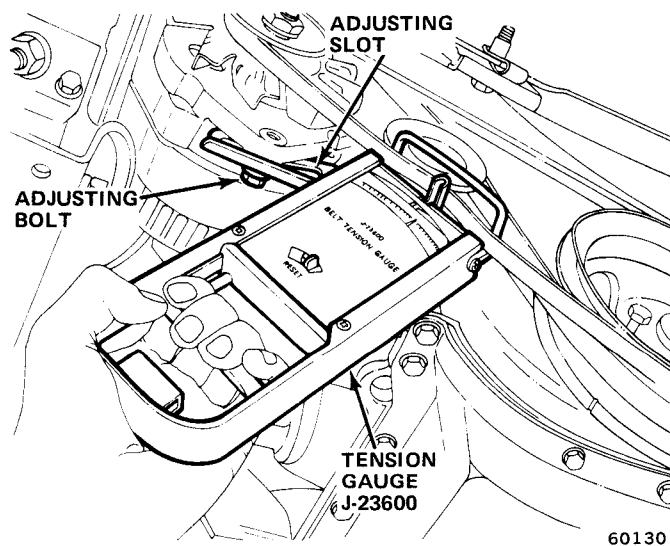

Fig. 2-11 Checking Drive Belt Tension—Typical
(3) Check belt tension using Tension Gauge J-23600 (fig. 2-11).
(4) Tighten adjusting bolt to 18 foot-pounds torque and pivot bolt to 28 foot-pounds torque.
(5) Check belt tension using Tension Gauge J-23600 (fig. 2-11). Correct if necessary.
(6) Tighten adjusting bolt to 18 foot-pounds torque, and tighten mounting bolts to 28 foot-pounds torque. If equipped with back idler, tighten to 33 foot-pounds torque.